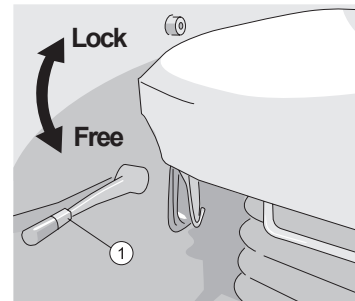

Figure 2-56
1. Check the positions of various control levers before starting (Figures 2-56 and 2-57). (1)—Brake lock lever, (2)—Gear shift lock lever, (3)—Steering control lever, (4)—Gear shift lever, (5)—throttle gear shift lever. Adjust the operator's seat, so that the operator can completely step down the brake pedal while leaning against the seat back.
2. Brake lock lever (1) is in the LOCK position, as shown in Figure (2-56)